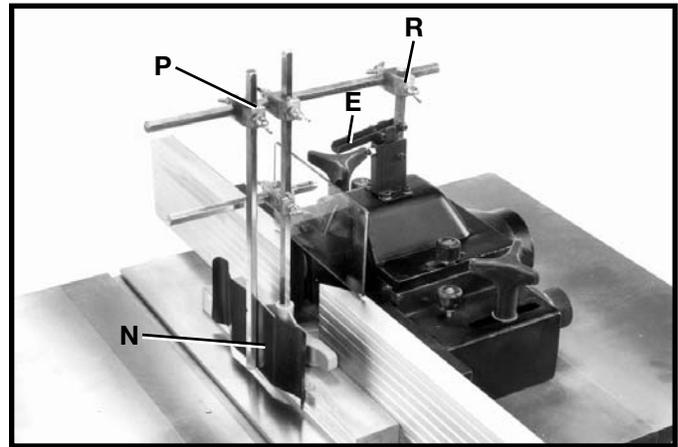

Fig. 56
4. Loosen thumb screws on guard mounting bracket (P) Fig. 56, and adjust spring clamp (N) so it will provide inward pressure on workpiece; then tighten thumb screws. **NOTE: Thumb screws on guard mounting bracket (R) Fig. 56, can be loosened to permit extension of guard assembly.**
**CAUTION: Always make certain guard locking handle (E) Fig. 56, is in the locked position as shown and all thumb screws are tight on guard assembly before turning shaper on.**